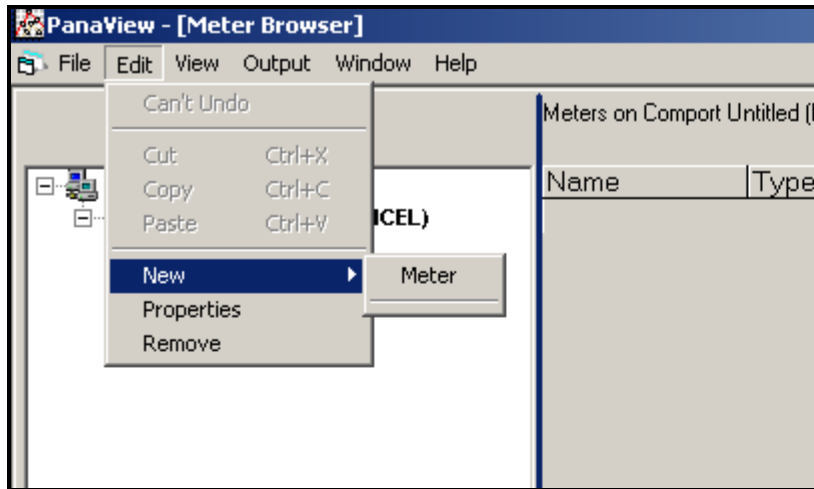

Figure 21: “New” Option in the “Edit” Menu
2. Click on the “New” option in the “Edit” menu (see Figure 21).